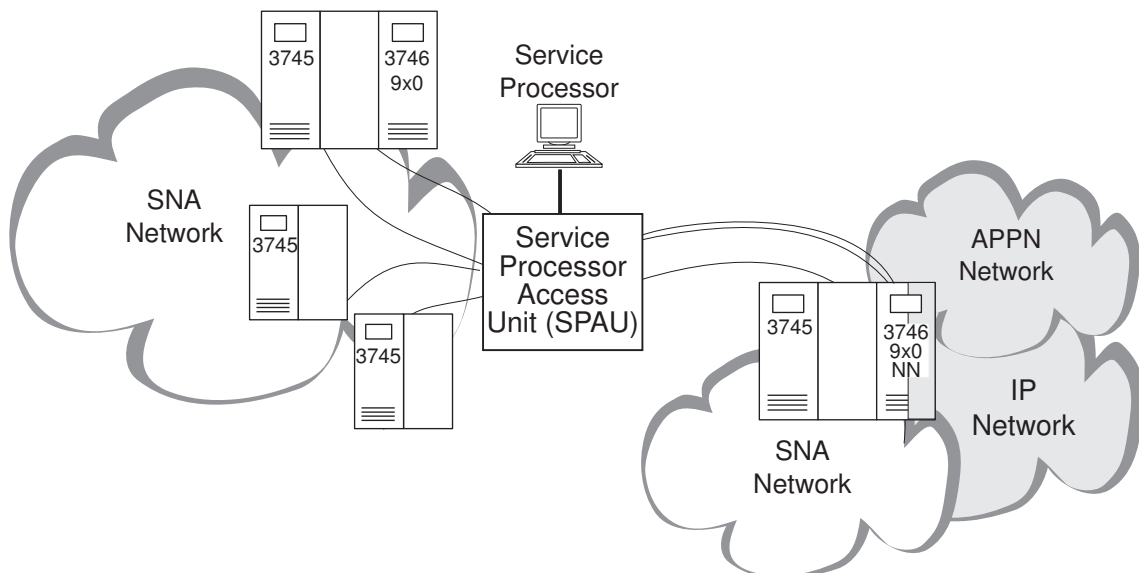

Figure 2-2. Example 2 of a Maximum Configuration. Service processor running four 3745s and two 3746-900s, one operating as an APPN/HPR network node.
- Four 3745s and two 3746-900s, one operating as an IP Router and APPN/HPR network node (see Figure 2-2 on page 2-2).